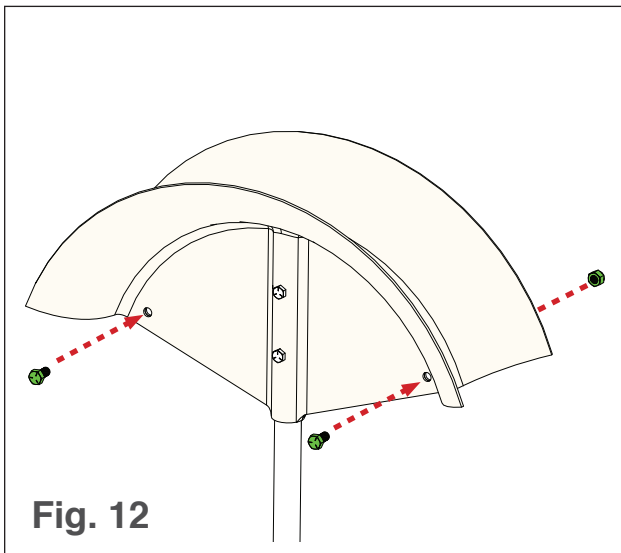

Fig. 12
2. Place the two remaining $\frac{5}{16}$ "-18 x $\frac{5}{8}$ " hex head bolts through the two outer holes, and secure with the two remaining nuts (see Fig. 12).